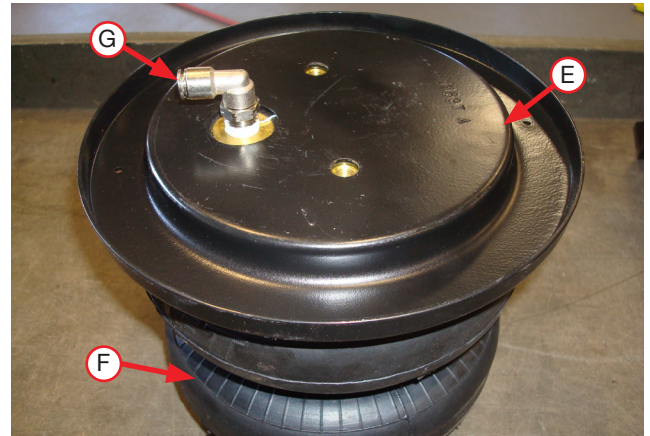

Fig. 9
1. Place the roll plates (E) on the air springs (F). Install the 90 degree swivel elbow fitting (G) onto the air springs (Fig. 9). Tighten the air fittings finger-tight plus 1 1/2 turns.